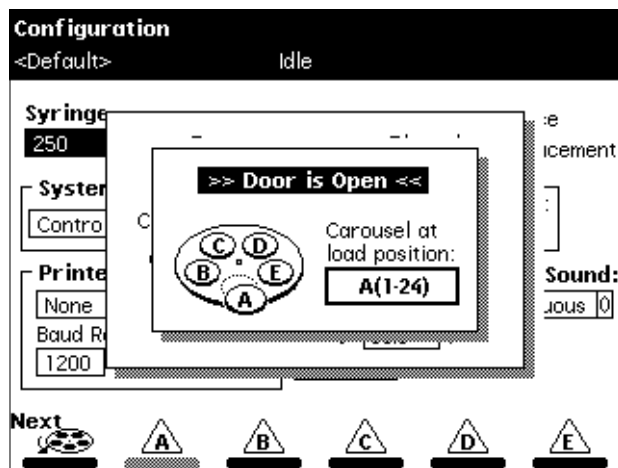

Figure 3-16 Door is Open Dialog Box
1. Open the carousel door. The Door is Open dialog box appears in the screen, as shown in Figure 3-16.